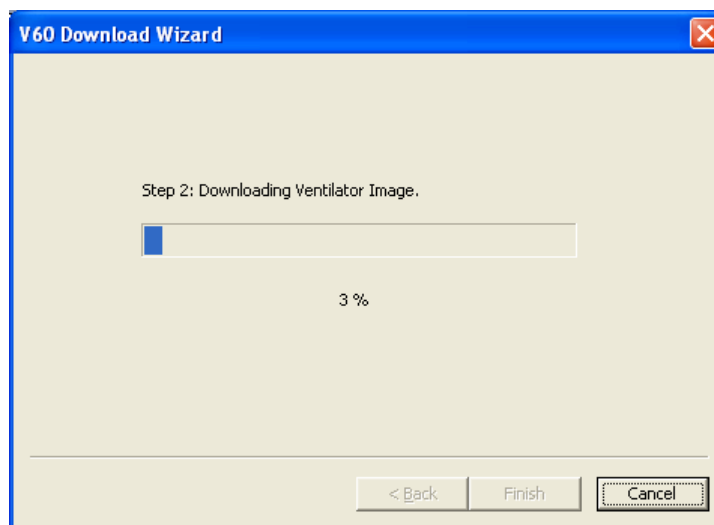

Figure A-17: Ventilator Image Download
14. When the updater image download is complete the ventilator image download starts automatically (Figure A-17).